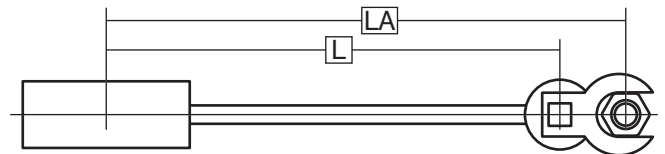

Figure 2-3. Torque Wrench - Crowfoot
NOTE: The most straight forward method of determining the correct torque setting is to multiply the desired torque by the length of the wrench from the center of the handle to the center of the drive (L) divided by the length of the wrench from the center of the handle to the crowfoot center (LA), (**Figure 2-3**).
5. Mark a line across the coupling nut and backup hex for flats method verification of coupling torque (Figure 2-3).